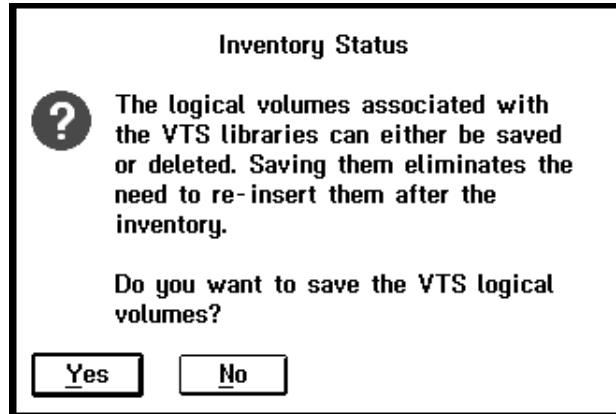

Figure 101. Save Logical Volumes Window
**Note:** Be sure to select **Yes** on the Save Logical Volumes Window (see Figure 101 on page 171) when asked if you want to save the VTS logical volumes.